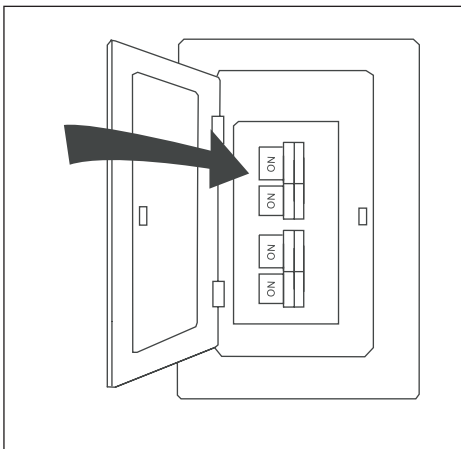

Figure 4.4
4. Turn ON the electrical power at the main fuse or circuit breaker and the wall switch. Assembly is complete (Figure 4.4).